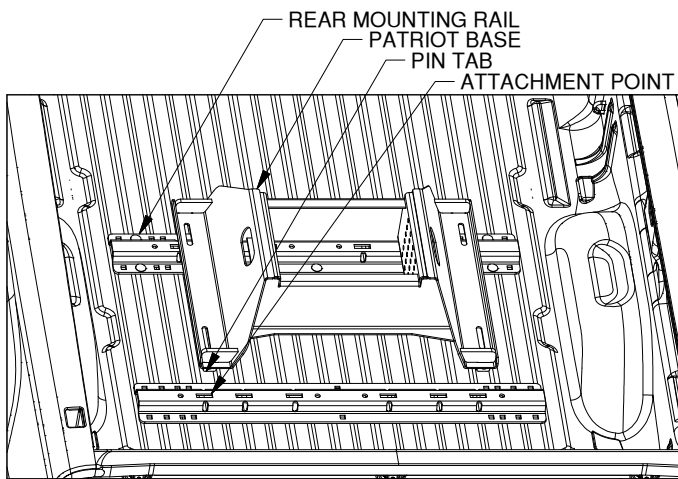

Figure E3: View into truck bed looking back at tailgate.
- 2. Position the forward mounting rail.** For this step the base which will be used in the mounting rails is required. Place a mounting rail into the truck bed in front of the rear mounting rail. Place the base over the rail attachment points and carefully lower it until the pin tabs pass through the attachment points on the rear mounting rail. Attach the forward mounting rail to the forward mounting points on the base. The base should rest flat against the top of the rails, see Figure E3. With the base still attached ensure that the forward rail is centered in the truck bed.